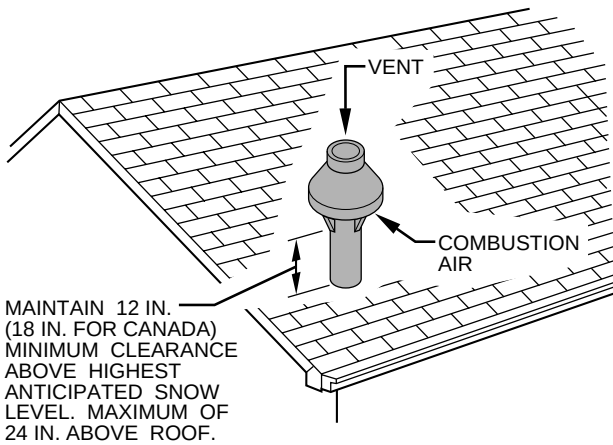

Fig. 41—Direct Vent Concentric Vent and Combustion-Air Roof Termination (Preferred)
Roof terminations—Locate assembly through roof to appropriate height as shown in Fig. 41.
6. Check required dimensions as shown in Fig. 41 or 42.